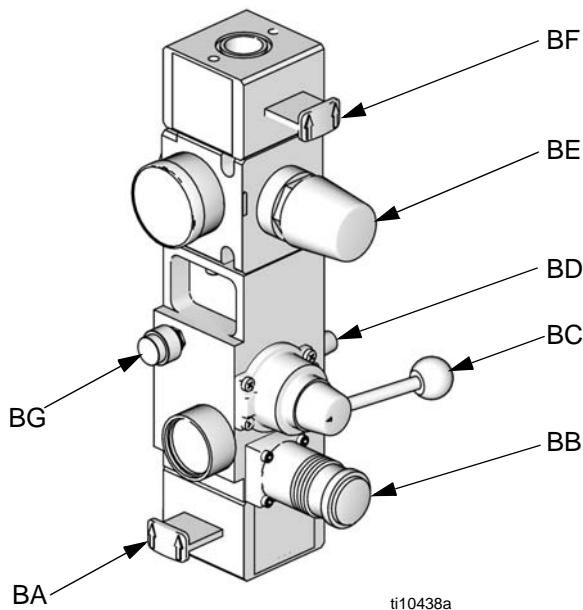

FIG. 3. Integrated Air Controls
| G Integrated Air Controls (see FIG. 3) | U Air Line Drain Valve (not supplied) |
- G Integrated Air Controls (see FIG. 3)